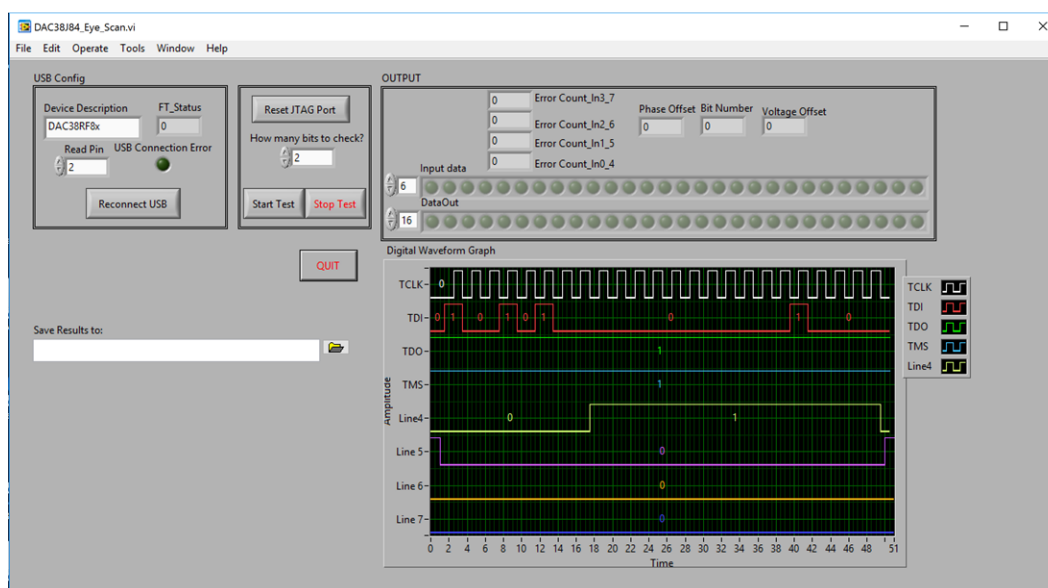

Figure 6. DAC38RF8x_EYE_SCAN GUI
1. Launch the eye scan GUI application. Figure 6 shows the GUI main window.
6. Click *Start Test*. While the test is running, users should see the input data lights cycling through the different values. For each bit in the *How many bits to check* box the eye scan will cycle through 32 different phase offset values from -16 to +16 and 64 different voltage offset values from -32 to +32. Figure 6 shows what the GUI should look like for a functioning eye scan. When the test is running properly the *DataOut* lights should be changing to reflect the received data. If the test must be stopped for some reason, click the *Stop Test* button. The *Stop Test* button will end the test but may not properly close the FTDI connection, so TI recommends restarting the GUI and reestablish a good connection if this step is necessary.